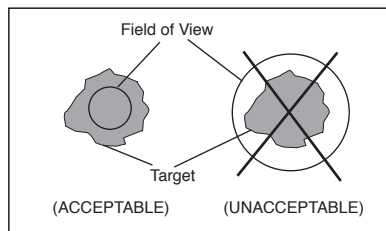
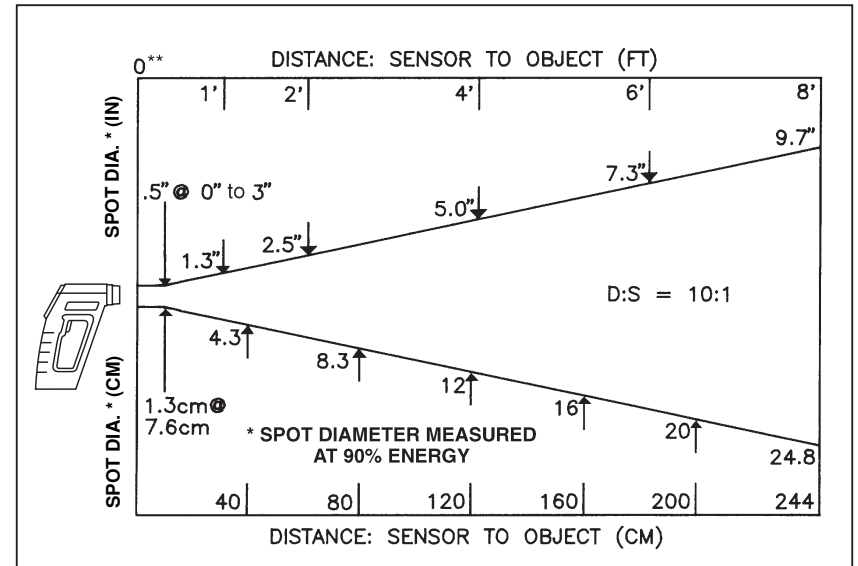

Figure 2-3. Field of View Positions
Figure 2-4. Field of View OS531 & OS532
2. The field of view of the thermometer should fall within the area of the target being measured. See Figure 2-3. Figures 2-4 through 2-6 show the field of view vs distance for the various thermometers.